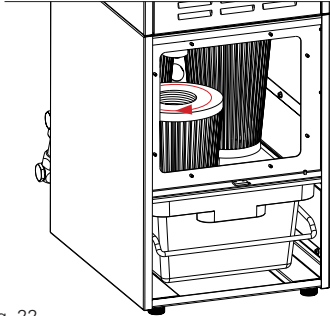
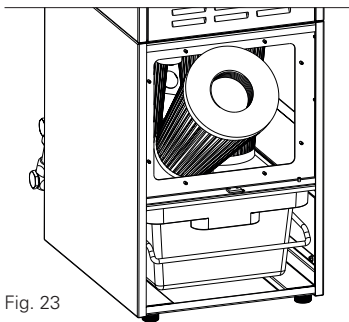

Fig. 22
Fig. 23
- Starting with the front filter cartridge, unscrew it clockwise (CW) and lower it into the dust container as shown in Fig. 22 and remove it to the front, see Fig. 23.
- Before reassembling the filter cover (35), make sure that the surrounding seal is in good condition.